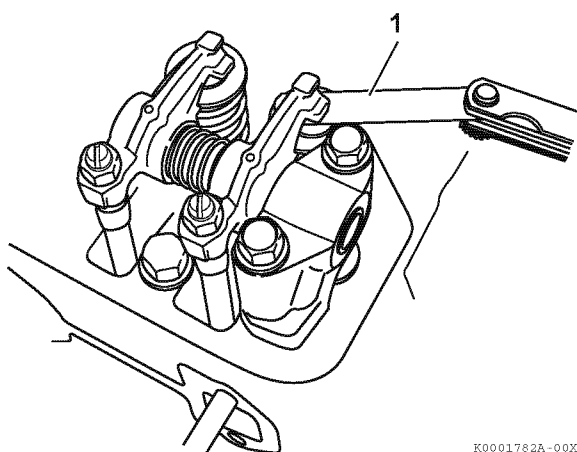
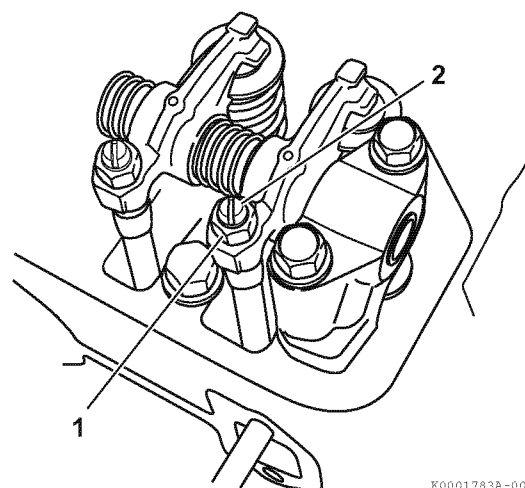

Figure 6-35
Figure 6-36
3. Insert a feeler gauge (**Figure 6-35, (1)**) between rocker arm and valve cap and record the measured valve clearance. (Use the data for estimating wear.)
5. Loosen the valve adjusting screw locknut (**Figure 6-36, (1)**) and valve adjusting screw (**Figure 6-36, (2)**) on the rocker arm. Check the valve for inclination of the valve cap, entrance of dirt or wear.
6. Insert a feeler gauge of the correct thickness (**Figure 6-35, (1)**) between rocker arm and valve cap. Turn the valve adjustment screw to adjust the valve clearance so there is a slight "drag" on the feeler gauge when sliding it between the rocker arm and valve cap. Hold the adjusting screw while tightening the valve adjusting screw locknut (**Figure 6-36, (1)**). Recheck the clearance (see *Adjustment Specifications on page 6-3*).